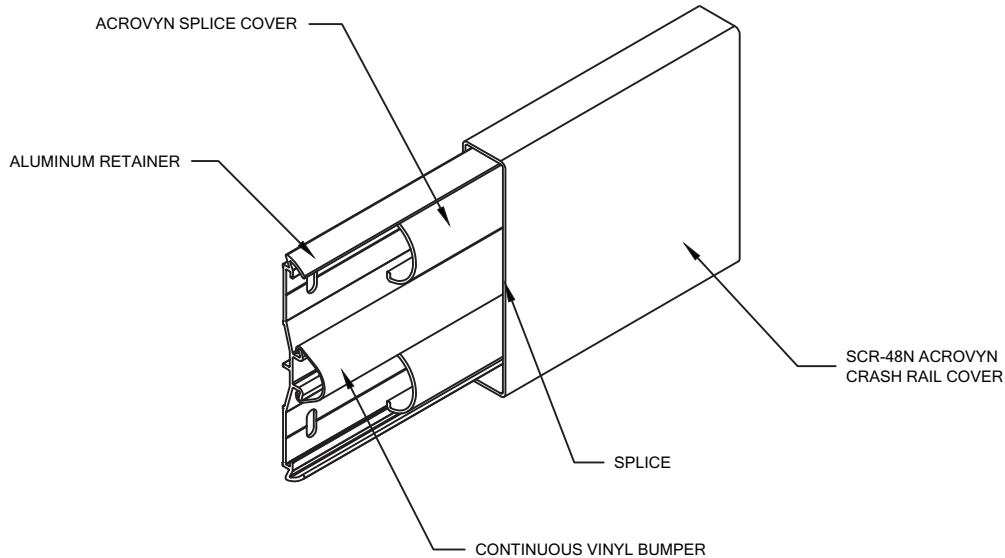

FIGURE 2.
5. ATTACH THE ACROVYN SPLICE COVERS AT ALL SPLICE JOINTS BY SNAPPING THEM INTO PLACE ABOVE AND BELOW THE CONTINUOUS VINYL BUMPER (SEE FIGURE 2).